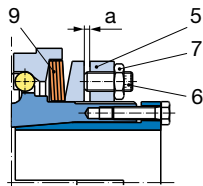

Fig. 9
### Sizes 4 and 5 (Figs. 9 and 10):
- Loosen all hexagon nuts (7).
- Tighten all set screws (6) evenly using an Allen wrench to the required dimension "a".
- EAS®-Compact® ratchetting and synchronous clutch, size 4: find dimension "a" in the Adjustment Table glued to the clutch (Fig. 9).